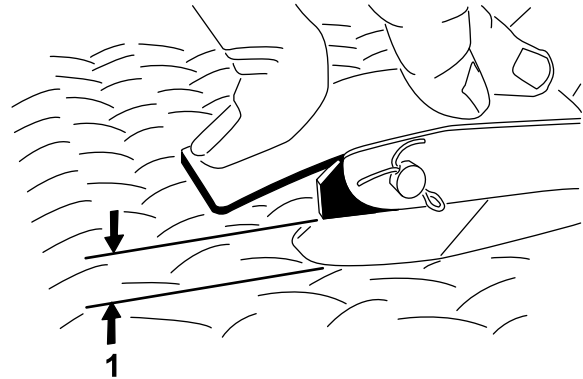

Figure 61
6. Adjust the ball joint on the accelerator cable and/or cable jam nuts while the throttle lever is against the high-idle stop to allow 2.54 to 6.35 mm (0.100 to 0.250 inch) of clearance between the accelerator pedal arm and the top of the diamond tread floor plate, when you apply 11.3 kg (25 lb) of force to the center of the pedal (Figure 61). Tighten the locknut.